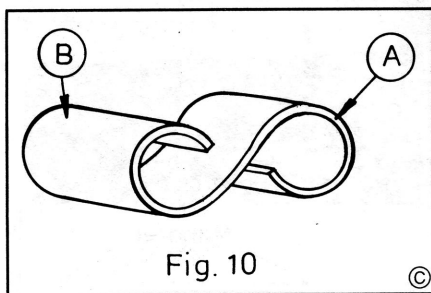

Fig. 10
The two techniques illustrated by the shapes shown in Fig. 6 cover almost every case where a fold and a bend are adjacent. There is one more to come, used where two adjacent curves are required in opposite directions, as shown in Fig. 10. Referring to Fig. 10, the curve (A) is formed in the usual way on the end of the stock by use of the toothed end of the rack.